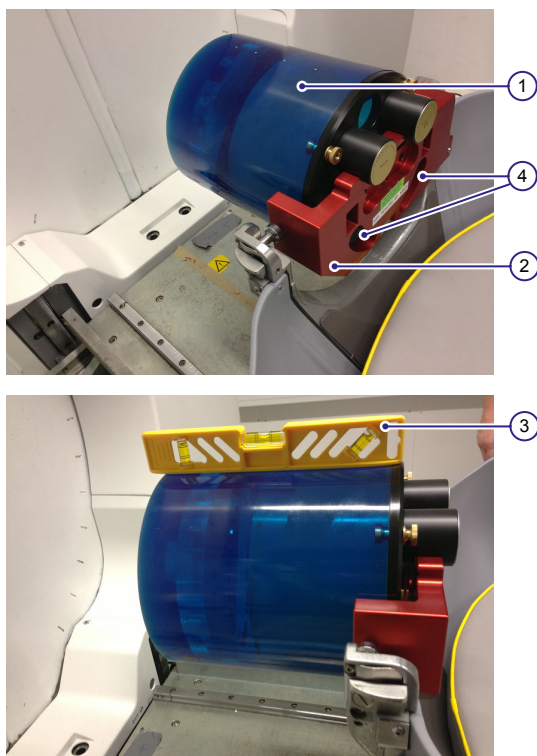

Figure 6.5 Installed Catphan phantom
- 1 Install the phantom base plate (2) in 90° to the docking device in the PPS. Make sure that it is correctly docked. See Figure 6.5.